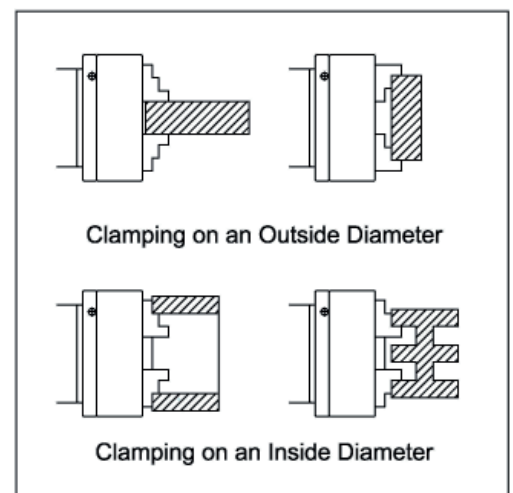

Fig. 32 Examples of workpiece mounted in the 3-jaw chuck
3. Use the chuck key to move the jaws and mount the workpiece to the chuck, similar to one of the methods shown in figure 32. Make sure the workpiece is mounted firmly on the chuck.